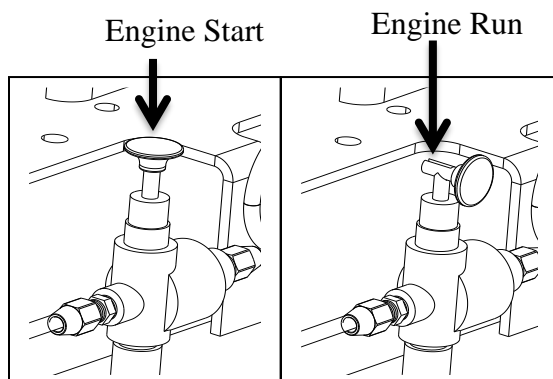

Figure 7
2. Turn the unloader to the engine START position. (Figure 7)